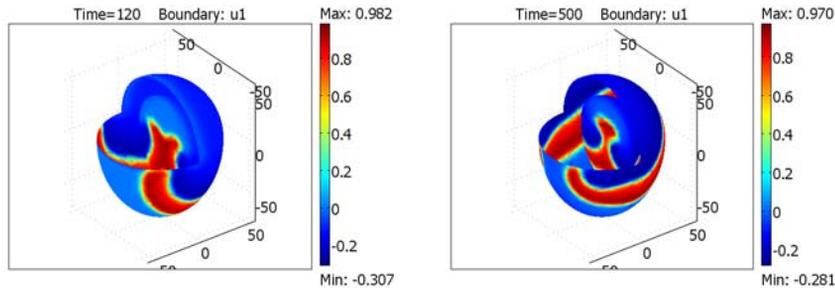

Figure 5-5: Solution to the FitzHugh-Nagumo equations at times $t = 120$ s (left plot) and $t = 500$ s (right plot).
The plots in Figure 5-5 below show the action potential u_1 . To visualize the solution on the inside, a quarter of the outside shell of the heart and one of the chamber surfaces are suppressed in the plot.
- 1 To create the right plot in Figure 5-5 on page 122, choose **Postprocessing>Plot Parameters** and select the **Boundary** check box on the **General** page. Clear all other check boxes in the **Plot type** area, then click **OK**.
- 4 To create the left plot in Figure 5-5 on page 122, choose **Postprocessing>Plot Parameters**, select **125** from the **Solution at time** list on the **General** page, and then click **OK**.